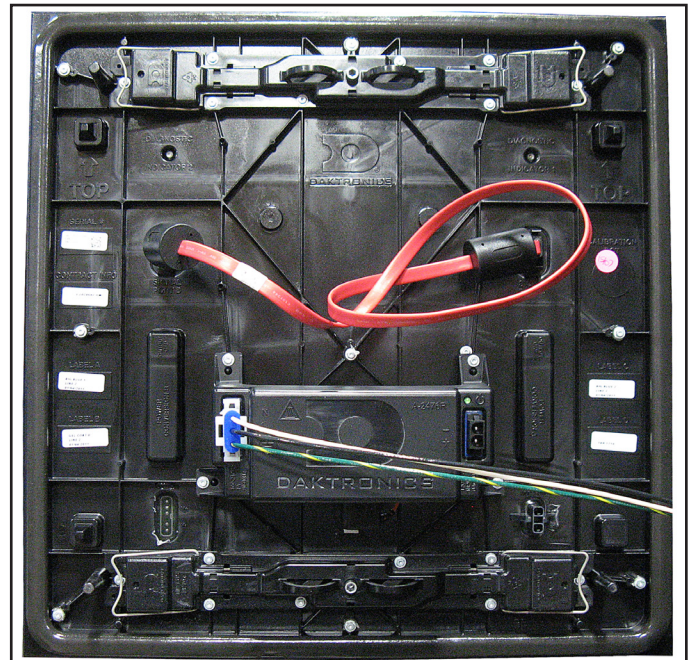

Figure 21: Module Self-Test
1. Attach a SATA cable to Port A and Port B on the module, as shown in **Figure 21**.